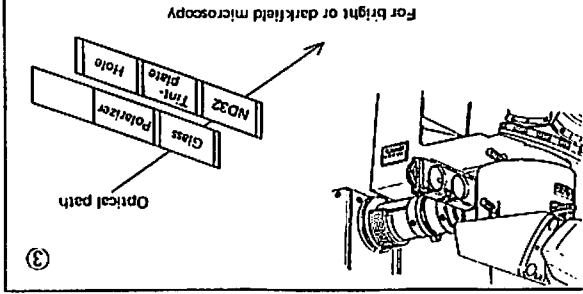

Fig. 9-3
③ For changing over from the differential interference or sensitive color polarizing observation to bright- or darkfield observation, pull the polarizer slider rightward out together with the tint-plate slider, until it stops with a click, thus the transparent glass and glare protection ND 32 filter being interposed in the optical path. (Fig. 9-3)